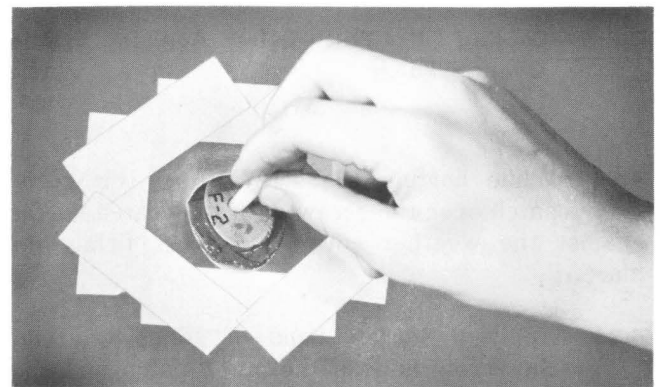

Fig. 8—Insertion of Interior Overlay and Filler Patches
- 4.20 Holding the screw securely by the threaded end, tilt it in such a manner that the patch assembly can be passed through the cutout hole in the weather cover (Fig. 8) with the head of the screw on the inside of the antenna.